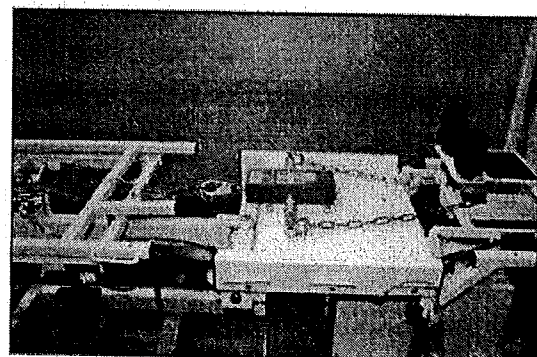

Figure 7.4
**Figure 7.4** shows how to properly attach the force gauge. The gauge should rest flat on the thoracic region of the table. The handles should be attached as shown. The chain is attached to the handles using appropriate hardware making sure that the force gauge is not put into a bind or twisting when under tension.